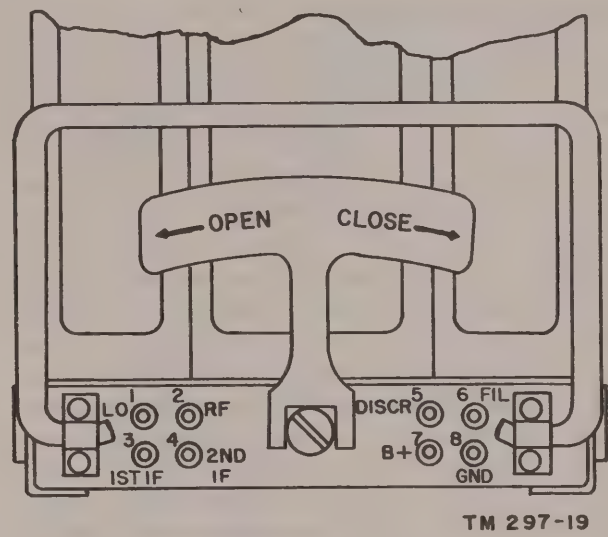

Figure 24. Radio receiver R-394/U, front panel test points.
32. Radio Receiver R-394/U, Test Points (fig. 24)